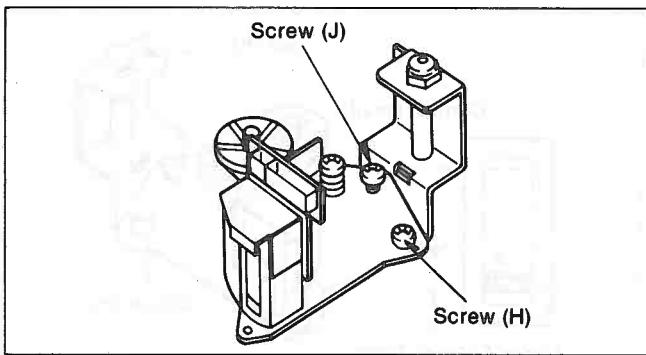
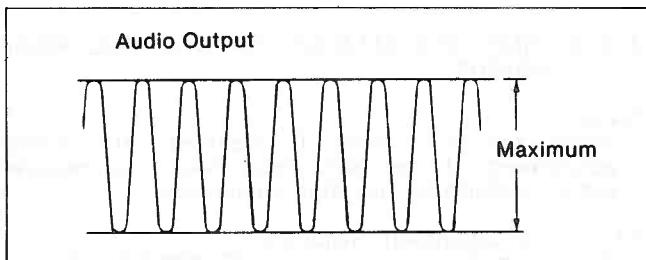

Figure M19
Figure M20
3. Adjust the screw (J)(Figure M19) so that the output level becomes maximum as shown in Figure M20.
4. Adjust the screw (H)(Figure M19) so that the output level becomes maximum as shown in Figure M20.